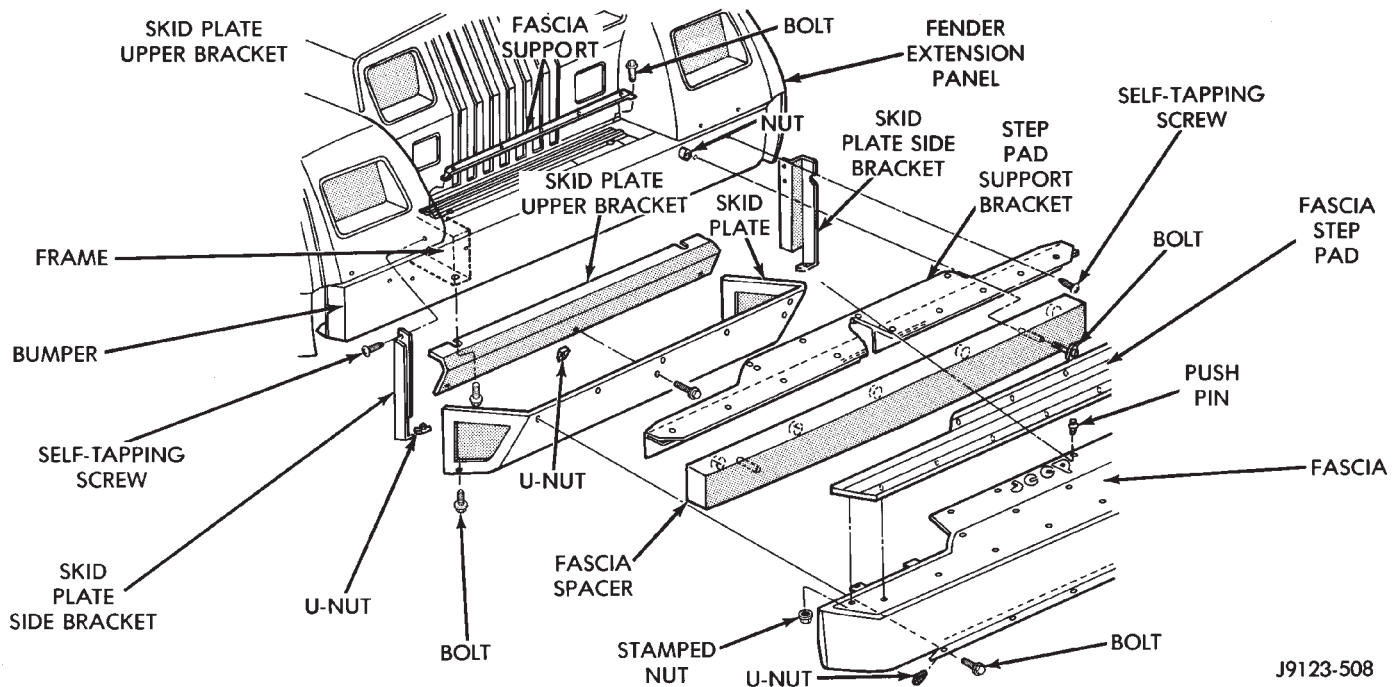

Fig. 47 Front Fascia and Skid Plate—Exploded View
- (4) Remove the retaining bolts and the fascia spacer from the frame crossmember (Fig. 47).
(5) Remove the retaining screws and the fascia step pad support bracket from the frame crossmember (Fig. 47).
(6) Remove the retaining bolts from the skid plate. Remove the skid plate from the brackets.
(7) Remove the retaining screws from the skid plate brackets. Remove the brackets from the frame rails.
(8) Remove the retaining bolts and the fascia support from the cover plate.
(1) Position the fascia support on the cover plate and install the retaining bolts (Fig. 47). Tighten the bolts to 5 N·m (44 in-lbs) torque.
(2) Position the skid plate brackets at the frame rails and install the retaining screws. Tighten the screws to 25 N·m (18 ft-lbs) torque.
(3) Position the skid plate at the brackets and install the retaining bolts. Tighten the bolts to 25 N·m (18 ft-lbs) torque.
(4) Position the fascia step pad support bracket at the frame crossmember and install the retaining screws. Tighten the screws to 25 N·m (18 ft-lbs) torque.
(5) Position the fascia spacer at the frame crossmember and install the retaining bolts. Tighten the nuts to 6 N·m (53 in-lbs) torque.
(6) Position the fascia at the frame crossmember and install the retaining bolts and push pins. Tighten the bolts to 10 N·m (7 ft-lbs) torque.
(7) Install the step pad on the fascia.
(8) If applicable, remove the support and lower the vehicle.